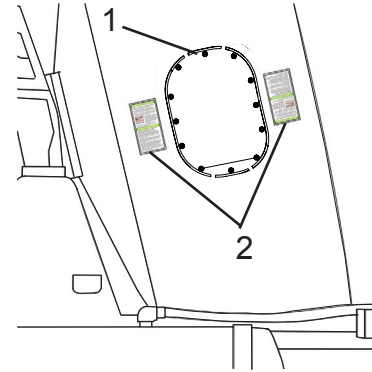

Figure 1
4. Position the drum hatch (Figure 1, Item 1) so the hatch is on the driver's side to perform service and maintenance.
5. Make sure that the mixer drum warning signs (Figure 1, Item 2) are clean, readable, and properly positioned. Replace any damaged or unreadable signs immediately.